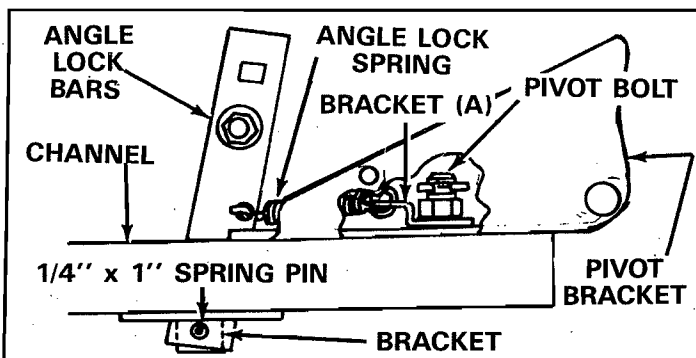

FIGURE 3
4. Using a hammer drive 1/4" x 1" spring pin through slot in bracket and hole in end of lock bars until flush with bracket. See figure 3. **Tighten 3/8" hex nut left loose in step 1.**